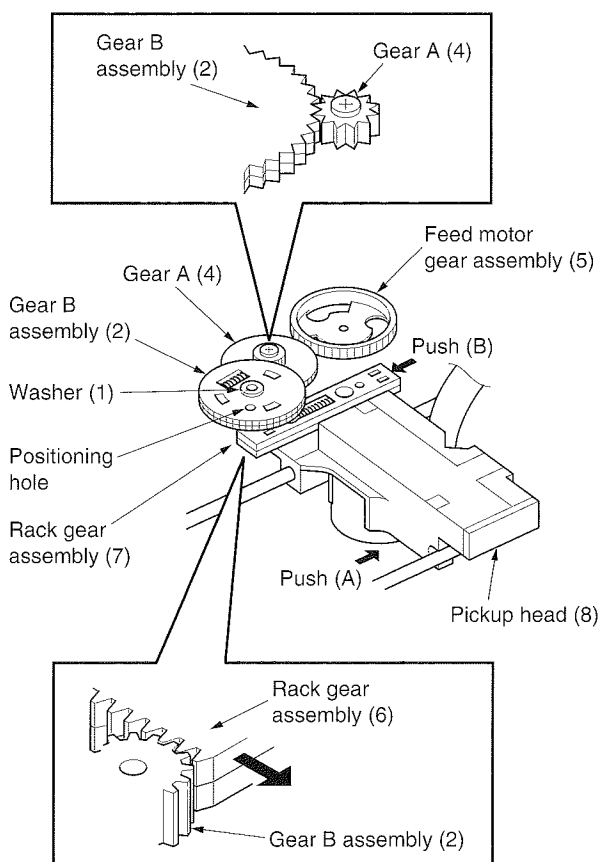

Fig. 2-23
5. Remove two screws (6), and remove the rack gear assembly (7). (Refer to Fig. 2-23.)